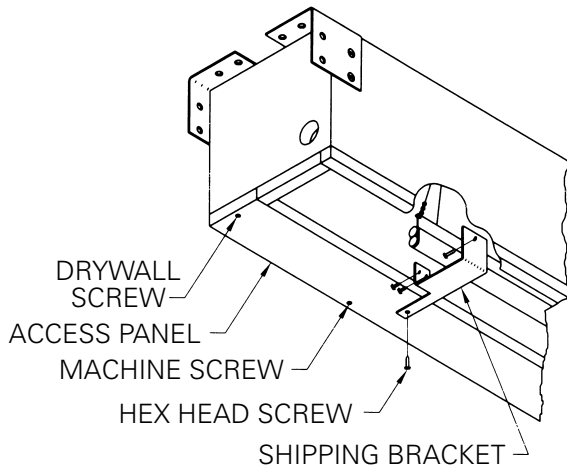

FIGURE 1
3. Carefully remove three shipping brackets by removing six hex head screws from case and six hex head screws from aluminum slat. Use a hex socket and a ratchet. Slat should move freely (Fig. 1).
4. Detach access panel by removing screws (Fig. 1).
1. Remove access panel (Fig. 1).
1. Remove access panel. (Fig. 1).